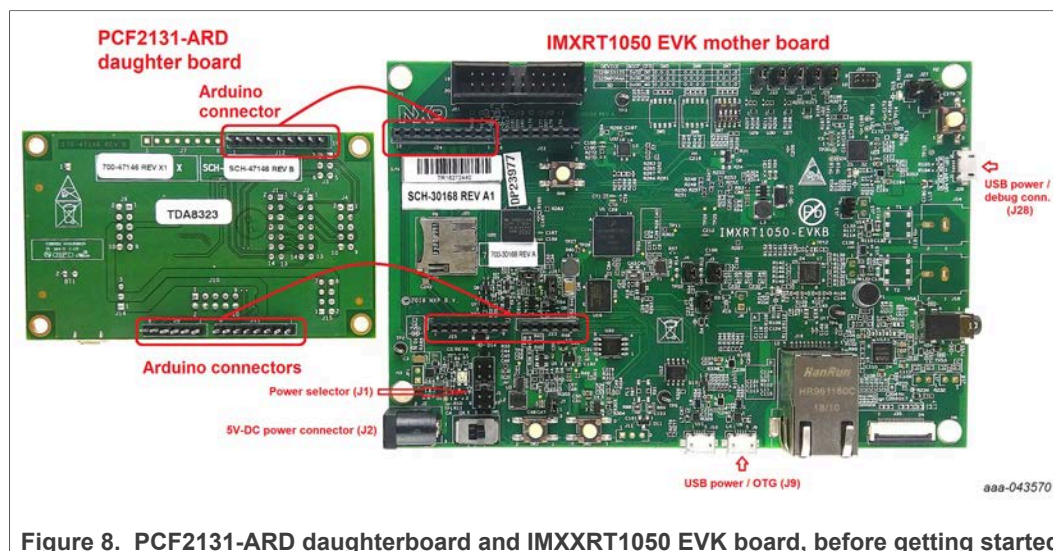

Figure 8. PCF2131-ARD daughterboard and IMXRT1050 EVK board, before getting started
Figure 8 shows the required hardware for operation of the PCF2131-ARD daughterboard with IMXRT1050 EVK. The following items are necessary:
- Insert the PCF2131-ARD daughtercard on the Arduino connector of the EVK (see Figure 8).